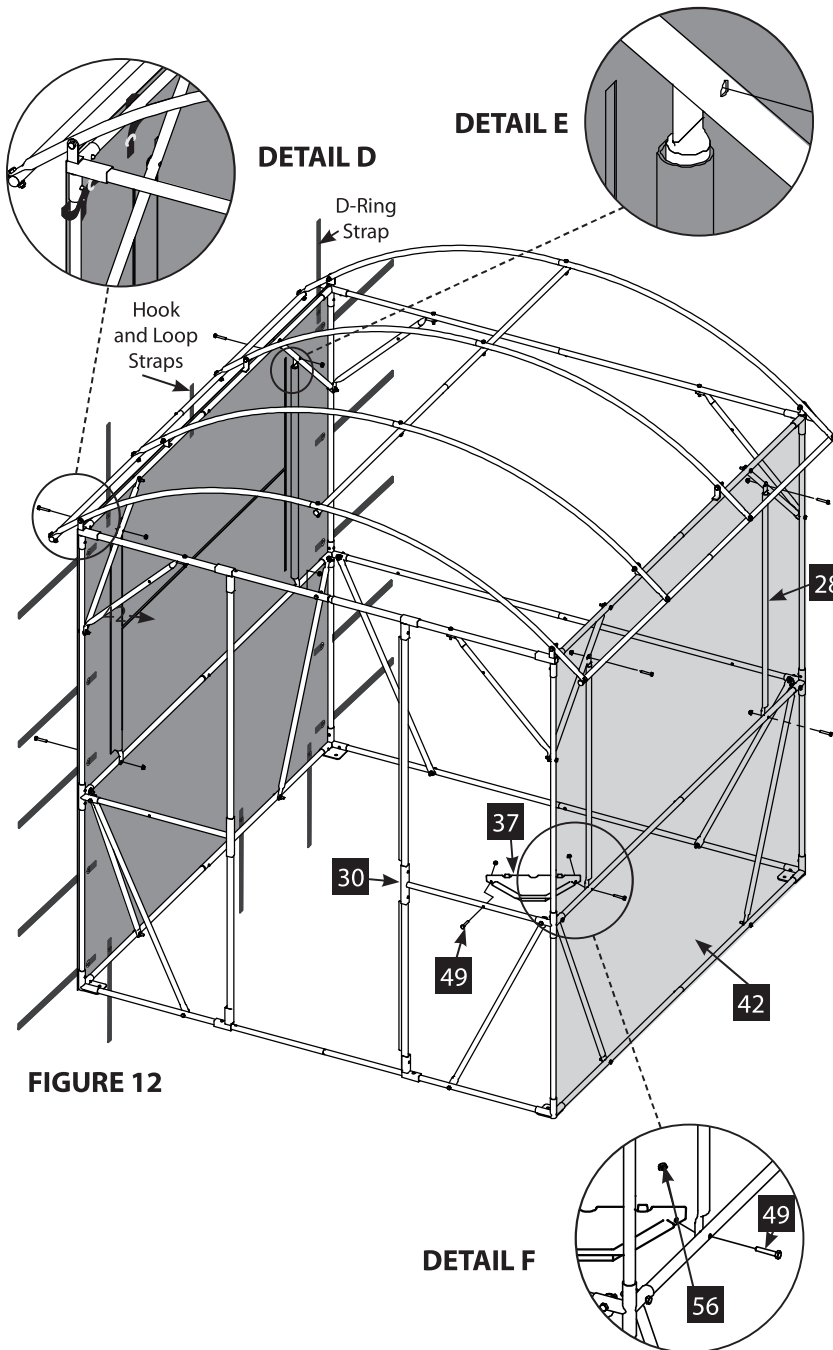
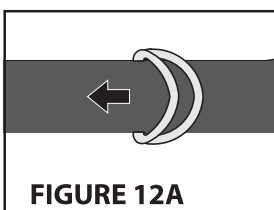

FIGURE 12
FIGURE 12A
12. Attach the two side wall panels (42) to the blind frame by first hanging the panels from the top tier of the frame using the two D-ring straps and hook and loop straps along the top edge of the panel. Wrap the straps around the frame and secure. **DO NOT FULLY TIGHTEN D-RING STRAPS AT THIS TIME. SEE FIGURE 12 and DETAIL D.** Refer to FIGURES 12A-C for proper strap routing.
Next, bolt the (28) window poles to the blind frame using two 1/4 X 1-1/2 IN bolts (49) and nuts (56) for each pole. Pay attention to the orientation of the poles. **SEE FIGURE 12 and DETAIL E.** Pay attention to the orientation of the bolts! The head of the bolt must be on the outside of the frame. This helps prevent wear on the skin when fully assembled.
Finish attaching the side wall panels (42) by wrapping all the D-ring straps around the frame and secure. **DO NOT FULLY TIGHTEN D-RING STRAPS AT THIS TIME. START AT THE TOP AND WORK YOUR WAY TO THE BOTTOM. SEE FIGURE 12.**
Attach the corner shelf (37) on one end to the previously installed window pole bolt and on the other end to the (30) part using one 1/4 X 1-1/2 IN bolt (49) and nut (56) as shown. **SEE FIGURE 12 and DETAIL F.**